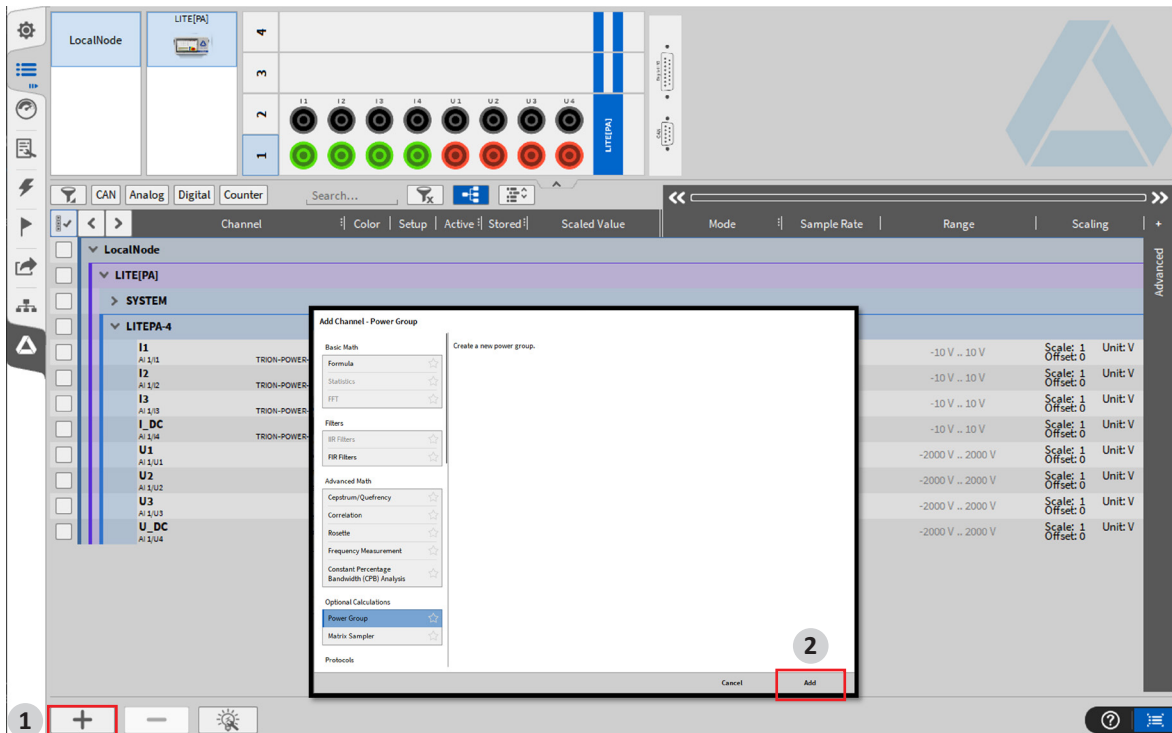

Fig. 18: Create a Power Group without channel pre-selection (1)
1. Click on the “+” button on the bottom left on the, see ① in Fig. 18.
2. Choose the Power Group tab in the optional calculations and click “add”, see ② Fig. 18.